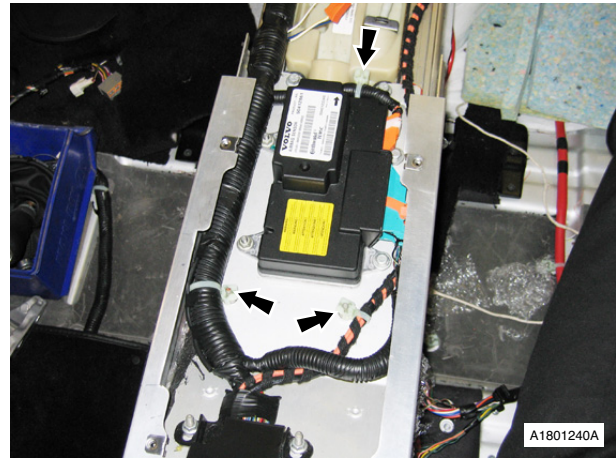

Fig. 27
63. Remove harness clips (x3) (see Fig. 27).